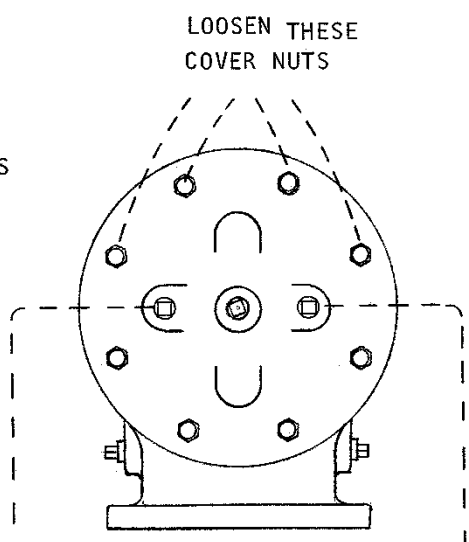

FIG. 3
- (B) VALVES WITH HORIZONTAL COVER TAPPINGS FIG. 3. CAREFULLY LOOSEN THE FOUR COVER NUTS INDICATED UNTIL A SLIGHT TRICKLE OF WATER IS OBSERVED FROM BETWEEN THE COVER AND THE DIAPHRAGM. WHEN A STEADY FLOW OF WATER IS OBSERVED, TIGHTEN THE COVER NUTS.